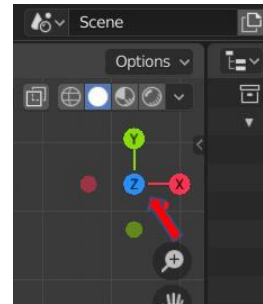

Figure 10
- If you click and drag on your **gizmo (Fig. 10)** you will be able to rotate your object in User perspective [or simply by holding down the middle mouse button (**MMB**)].